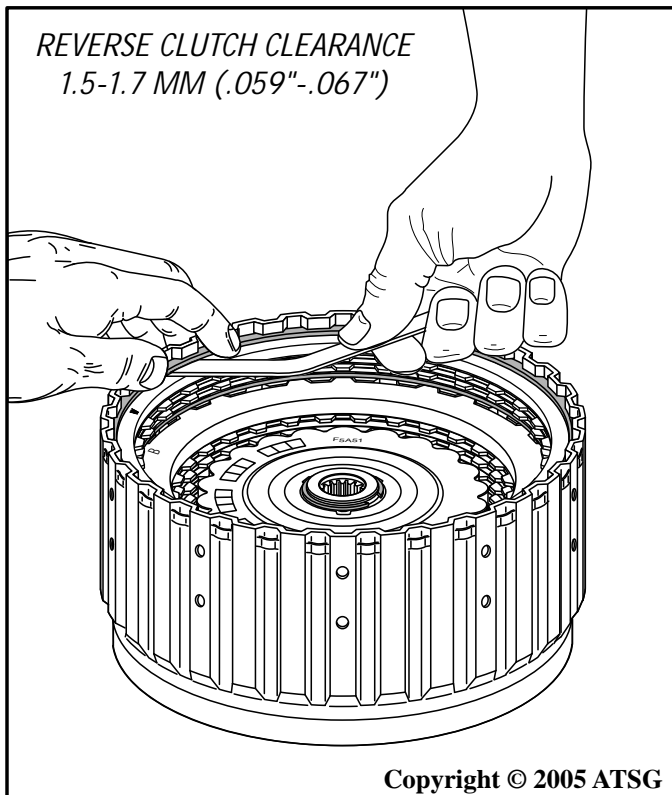

Figure 90
26. Compress the plates and measure with feeler gage between snap ring and backing plate, as shown in Figure 90.
**Note:** Proper compression can at times be achieved by hand, as shown in Figure 90, as there are only 2 friction plates.